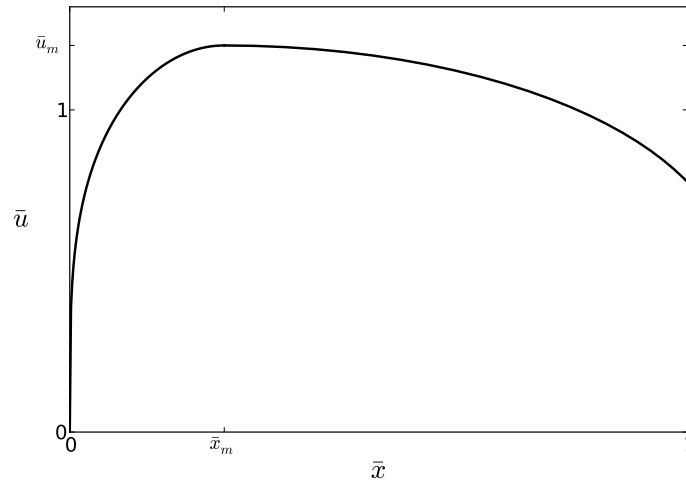

Figure 8: Nondimensional velocity distribution around the airfoil.
1. Nondimensionalise the velocity distro with  $U_\infty$  and  $L$  to express  $\bar{u} = u/U_\infty$  as a function of  $\bar{x} = x/L$ . Use the nondimensional parameters  $\bar{u}_m = u_m/U_\infty$ ,  $\bar{x}_m = x_m/L$  and  $\bar{R} = R/L$ . See Fig. 8.